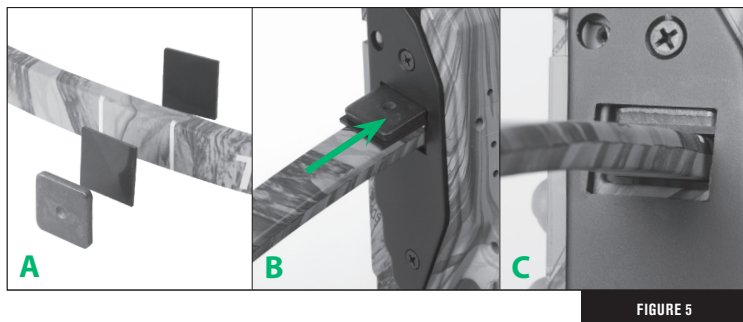

FIGURE 4
1. Attach a plastic tip on each end of the limb. Make sure to attach the tips straight and push in securely (Fig. 4). Tap on a solid surface to seat all the way onto the limb.